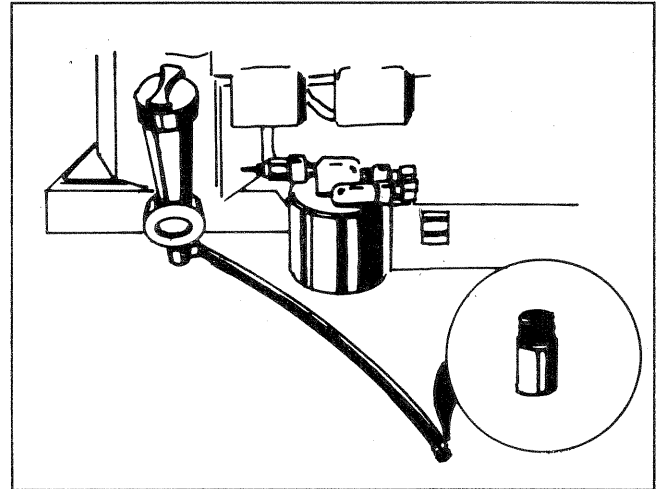

Figure 8. Oil Drain Hose and Cap
- With engine still warm from running, remove cap from oil drain hose (Figure 8). Drain oil completely into a suitable container.